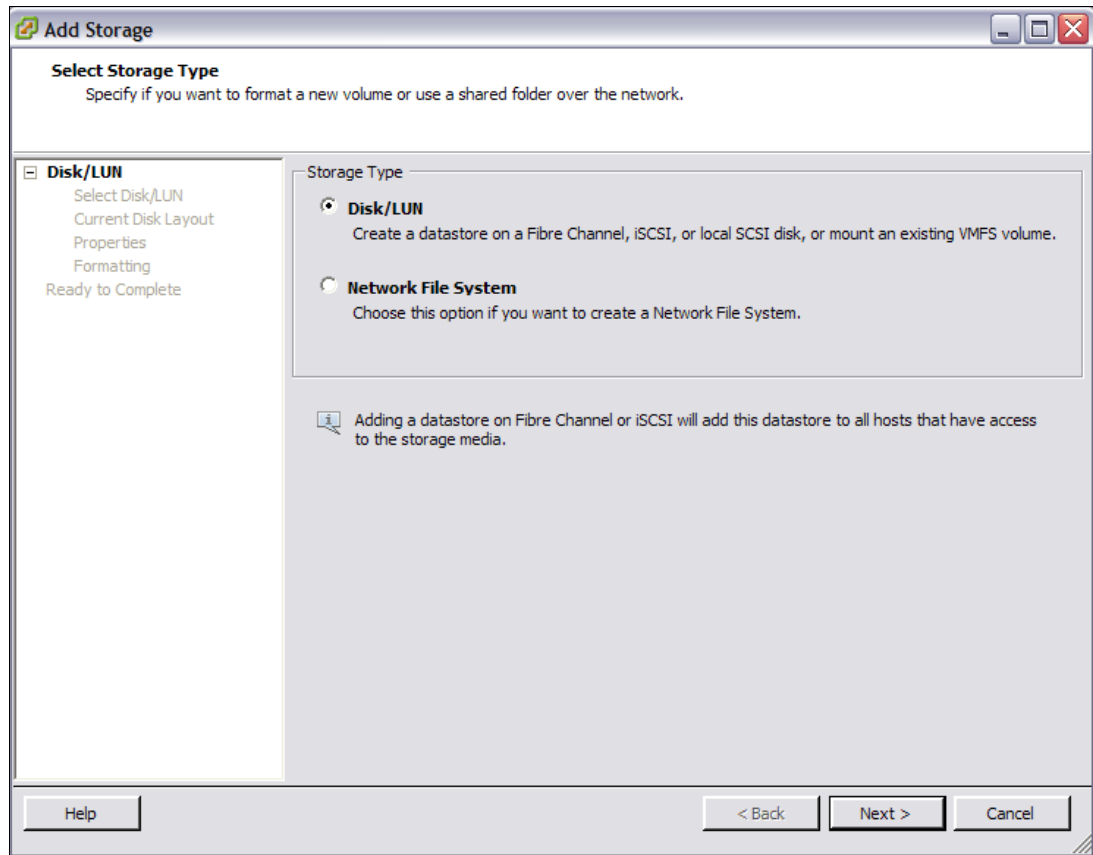

Figure 22-57 Storage Type selection
4. You are presented with the Storage Type selection pane. Select **Disk/LUN** to create a new datastore on the Fibre Channel SAN disks as shown in Figure 22-57 on page 692. Click **Next**.